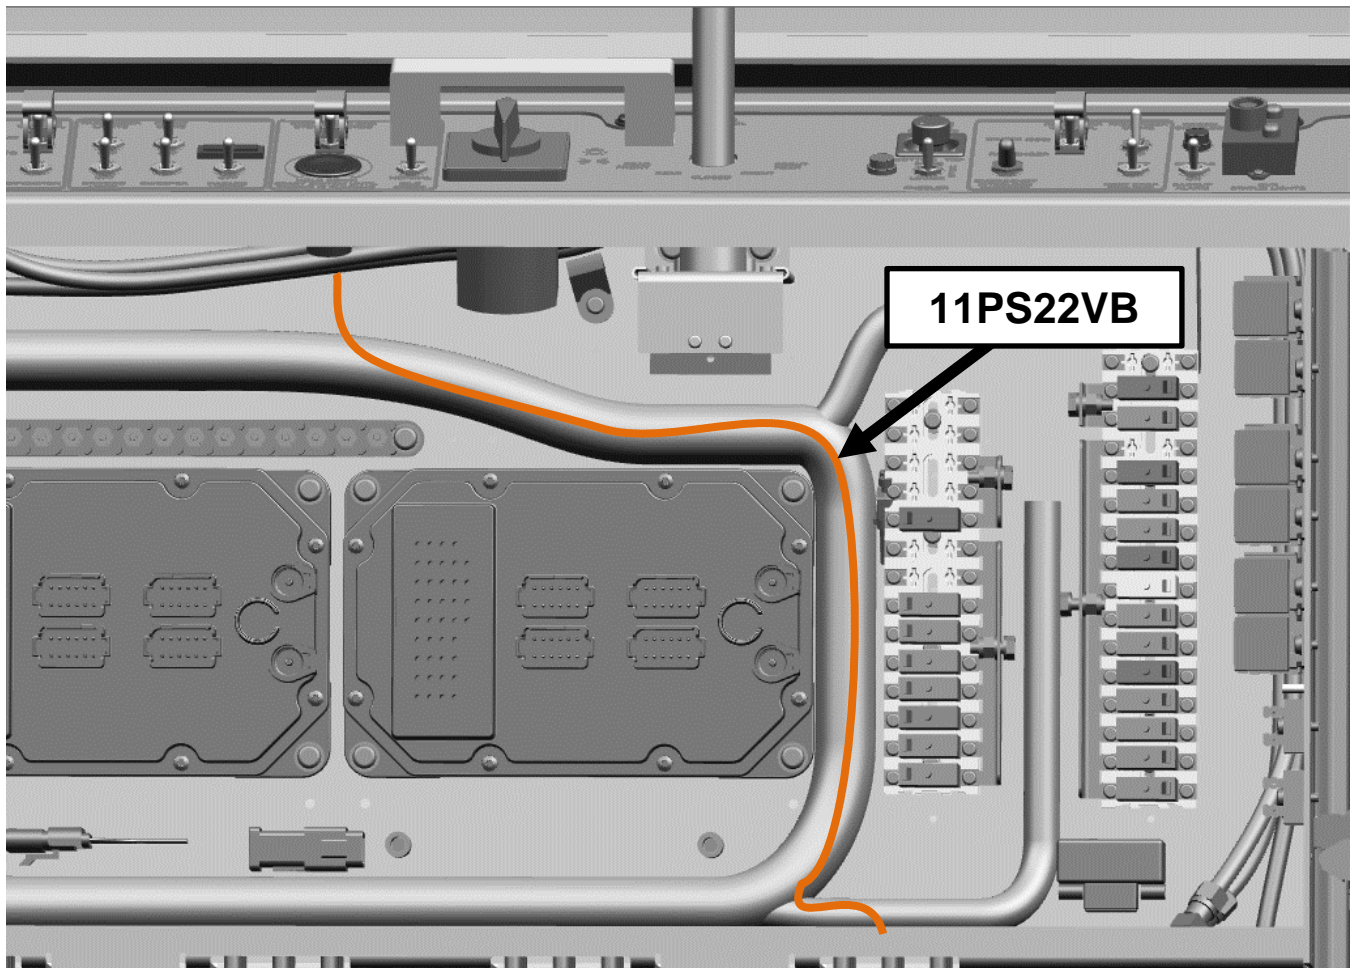
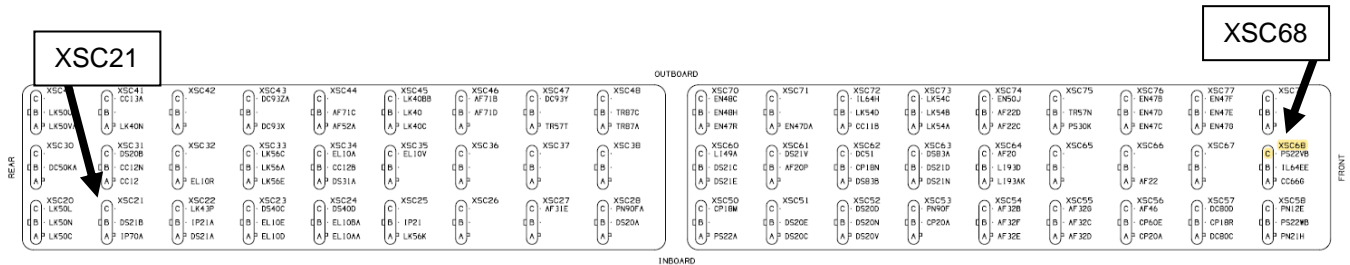

Figure 2– Location and removal of wire 11PS22VB
Figure 7– Connections (Bottom of Side Console)
3. Locate the wire 11PS22VB, connected from the Start Push to Start Switch on Term 4 (see Figure 2), to connector XSC68 (Pin C) as shown in Figure 7.